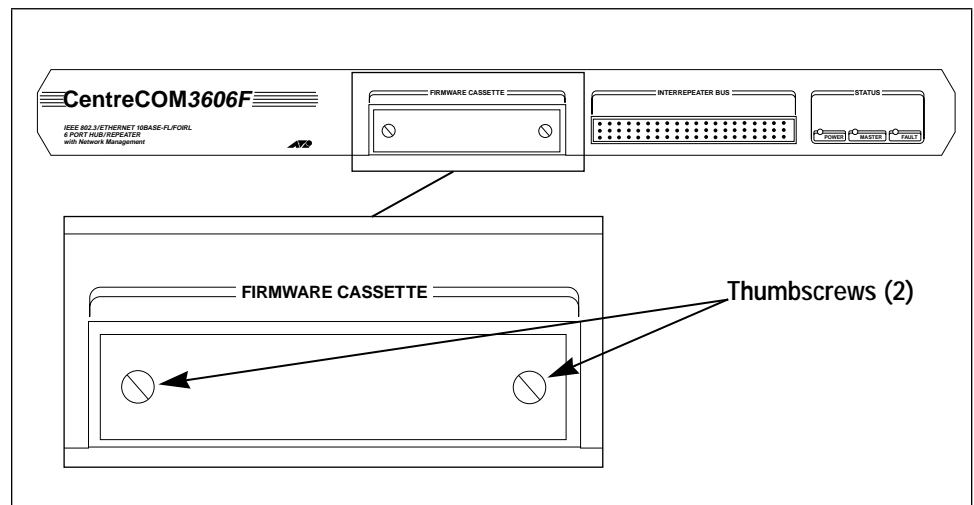

Figure 4: Firmware Cassette Location
3. Remove the blank cover plate from the Firmware Cassette slot on the back panel (see Figure 4). Unscrew the thumbscrews and slide out the blank plate by grasping the loosened thumbscrews.